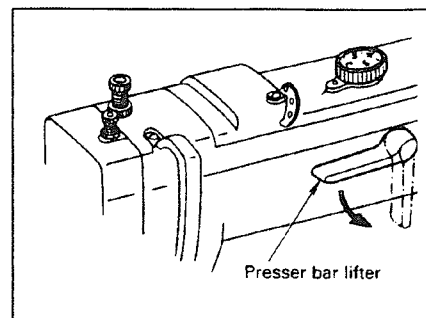

Fig.28
28、 Presser bar lifter (Fig.28):